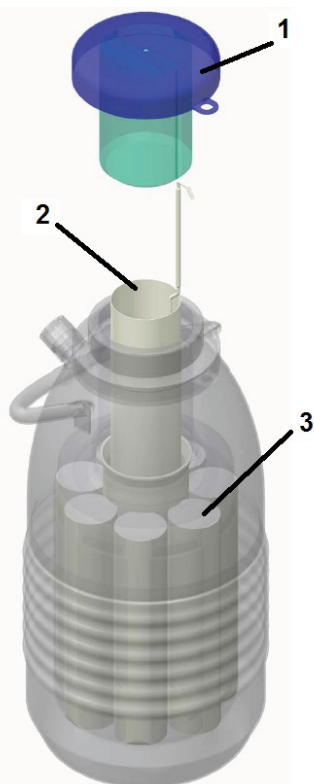

Figure 1
1. On a clean working surface, in a well ventilated area, warm the unit to ambient temperature. Begin by removing the cap assembly and canister or rack (depending on model), items 1 and 2 shown in Figure 1.
2. Wearing gloves of either polyethylene, vinyl, Teflon, or Viton, and an approved dust mask, type N95 (US) or type P1 (EN 143). Reach into the unit and remove the shipping core, item 3.
6. Carefully replace the shipper core, item 3, taking care not to tear the adsorbent sock casing.